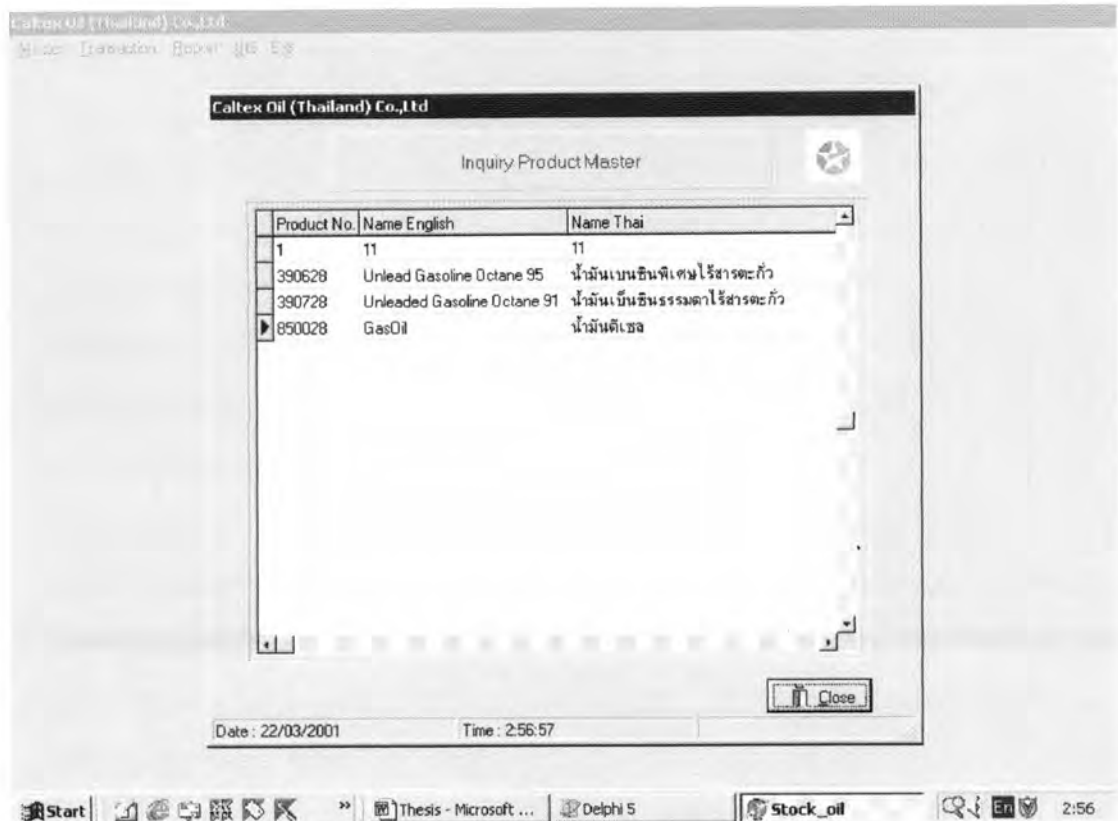

Figure 4-18 Inquiry Product Menu
c) Inquiry Product data (see figure 4.18)